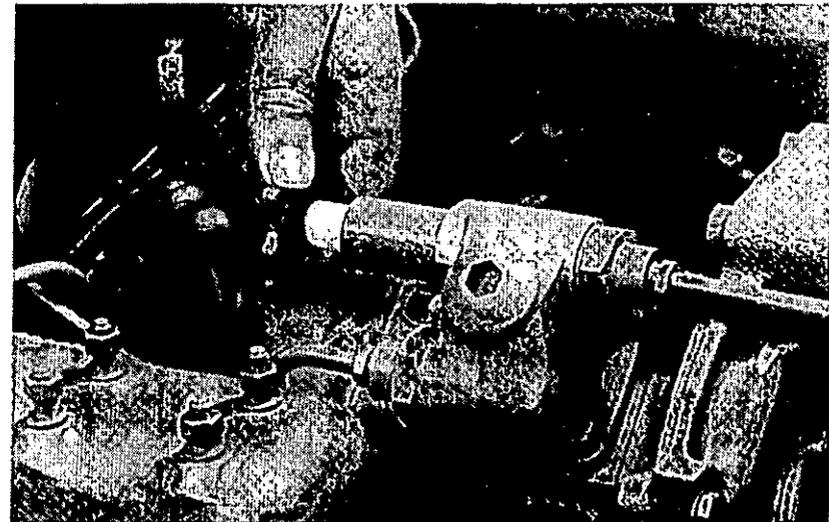

Fig. 17 Fuel lift pump priming plunger
- 2 According to the application, either release the priming pump plunger from the fuel lift pump (see fig. 17) or release the plunger of the separate priming pump fitted above the fuel filter (see fig. 18). Operate the plunger until fuel, free from air, comes from the filter vent point. Tighten the filter vent plug.